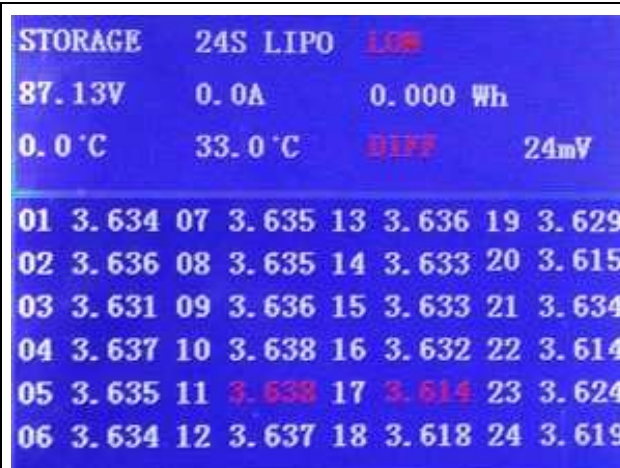

figure 2
6. The right corner interface figure 2 displays all of the information including all cell voltage. The highest and the lowest cell voltage is displayed in RED text. The difference of cell voltage and the difference of battery temperature is also displayed.